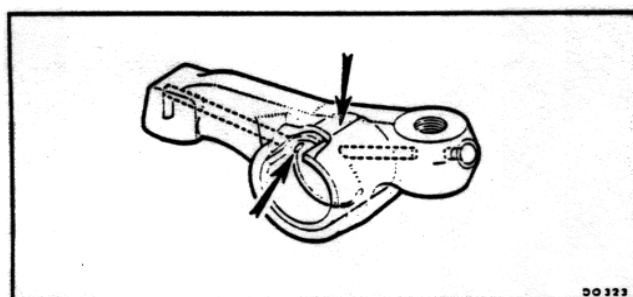

Fig. 2
- b. Position the bushes in the rockers as shown in Fig. 2.